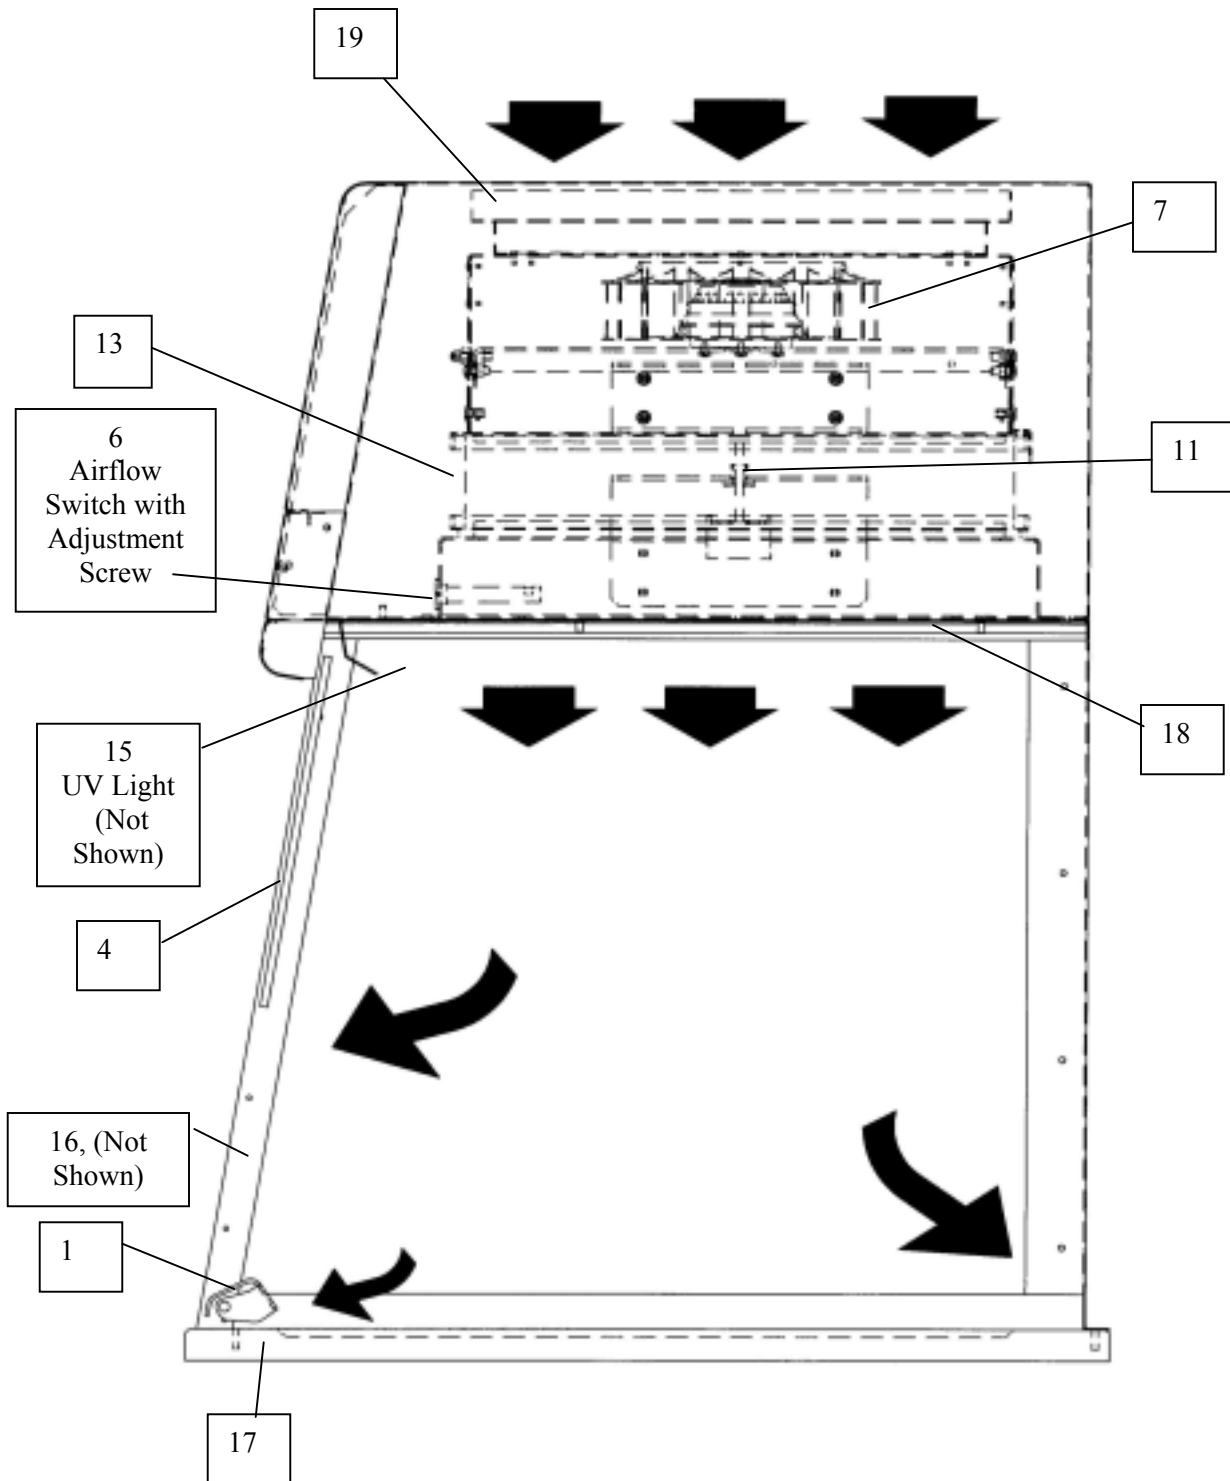

Figure 4-2
The HEPA filter is shipped installed with the gasket on the downstream side. The HEPA filter is leak checked at Labconco. A second leak check is recommended before using the enclosure and at least annually thereafter. Consult your Safety Officer and Chapter 6 for the HEPA Filter Leak Test. See Figure 4-2 for HEPA filter location, HEPA filter gasket, and filter clamp bolts. All seams downstream of the HEPA filter are jacketed by positive pressure. This intrinsically safe design ensures Class 5 conditions and a particulate free environment for PCR experiments.
7. **Inherently Safe Impeller** has a negative pressure plenum that surrounds the positive pressure impeller so that if a leak should occur, the unfiltered air is captured and refiltered. See Figure 4-2.
13. **HEPA (High Efficiency Particulate Air) Filter** is rated to remove 99.99% of all particles 0.3 micron in size. See Figure 4-2.
18. **Upper Diffuser Screen** provides protection for the HEPA Filter and promotes even distribution of downflow air. See Figure 4-2.